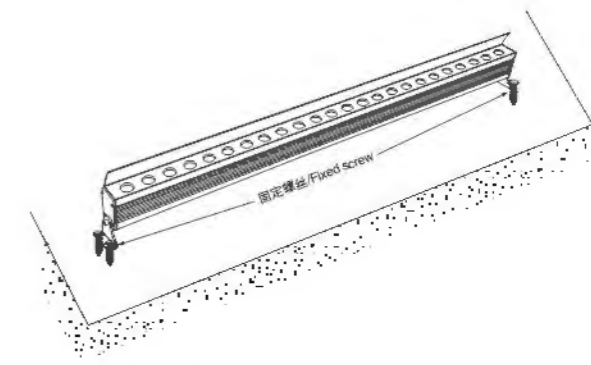

图 2/Picture 2
2. 将灯体安装到固定件上, 如图2所示, 并固定牢固。
2. Install the lamp body to fixed pieces, as shown in figure 2, and fixed tightly.